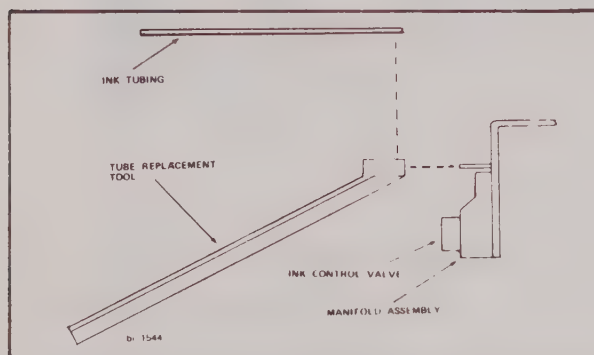

FIGURE 6-9. INK TUBE REMOVAL
3. Turn pen ink valve OFF with a flat-blade screwdriver. Refer to Figure 6-9.
3. Turn pen ink valve OFF with a flat blade screwdriver. Refer to Figure 6-9.
3. Remove ink tubing from manifold (Fig.6-9).